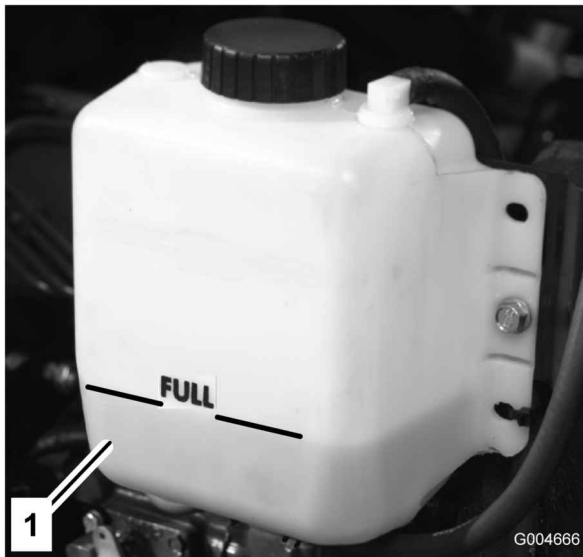

Figure 7
1. Carefully remove the radiator cap and expansion tank cap (Figure 7).